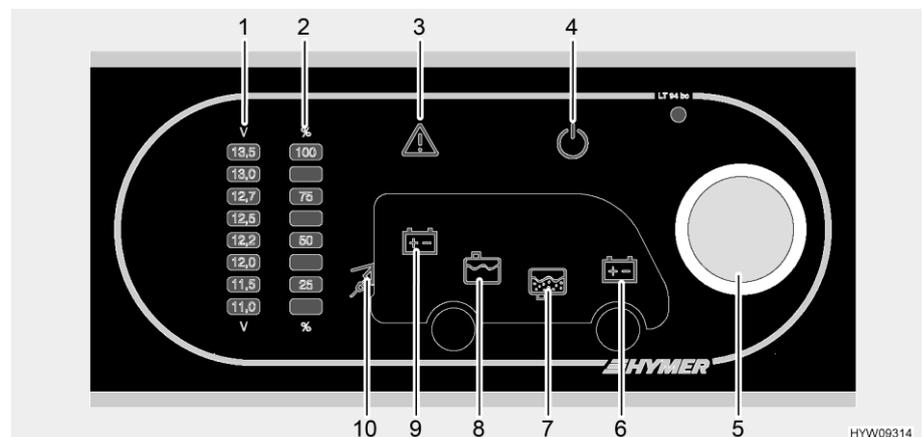

Fig. 96 Panel (LT 94)
The rotary knob (Fig. 96,5) switches the panel and the 12 V power supply to the living area on and off.
- Press the rotary knob (Fig. 96,5): The 12 V living area power supply is switched on. The 12 V indicator lamp (Fig. 96,4) lights up.
- Press the rotary knob (Fig. 96,5): The 12 V living area power supply is switched off. The 12 V indicator lamp (Fig. 96,4) goes off.
Use the rotary knob (Fig. 96,5) for reading the voltage of the living area battery as well as that of the starter battery. The voltage is displayed on the indicator scale for battery voltage (Fig. 96,1).
- Turn the rotary knob (Fig. 96,5) until the symbol for the desired battery lights up.
Living area battery voltage is displayed (Fig. 96,9)
Starter battery voltage is displayed (Fig. 96,6)
- Read the voltage from the indicator scale for battery voltage (Fig. 96,1). The following tables will help you to correctly interpret the battery voltage display.
Use the rotary knob (Fig. 96,5) for checking the fill level of the water tank or the waste water tank. The fill level is displayed on the indicator scale for the tank fill level (Fig. 96,2).
- Turn the rotary knob (Fig. 96,5) until the symbol for the desired tank lights up.
The level of the water tank is displayed (Fig. 96,8)
The level of the waste water tank is displayed (Fig. 96,7)
- Read the level from the indicator scale for the tank fill level (Fig. 96,2).
The Alarm warning light (Fig. 96,3) flashes if set limit values are exceeded or fallen below.
The Alarm warning light (Fig. 96,3) flashes if the battery voltage falls below 11 V. If the 12 V power supply is switched on, the relevant battery symbol (Fig. 96,6 or 9) also lights up and "11.0" starts flashing on the indicator scale for battery voltage (Fig. 96,1). Danger of total discharge.
The Alarm warning light (Fig. 96,3) starts to flash and the corresponding tank symbol (Fig. 96,7 or 8) lights up as soon as the water tank is empty or the waste water tank is full.
The 230 V indicator lamp (Fig. 96,10) illuminates whenever line voltage is available at the transformer/rectifier input.